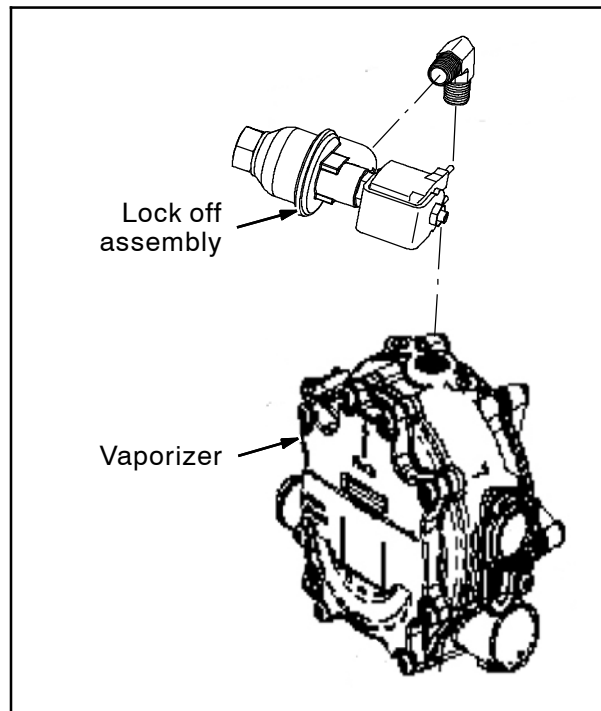

FIG. 12
6. Remove the lock off assembly from the vaporizer. Set the lock off assembly aside. (Fig. 12)
- Install the lock off assembly onto the new vaporizer (1). (Fig. 12)